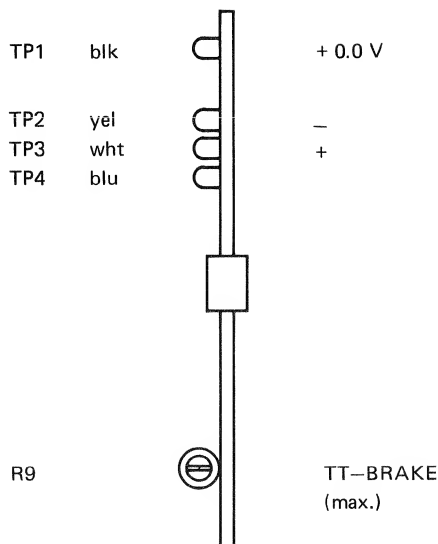

Fig. 2.5.—6
4. Depress EDIT key and rotate EDIT control knob in counter-clockwise direction until the microswitch reacts. Adjust potentiometer CUT R37/72 until the markings "PLAY+" (1/4'' machine) resp. "PLAY" 1/2'' machine) on the left-hand tape tension sensor are aligned (fig.2.5.—5).